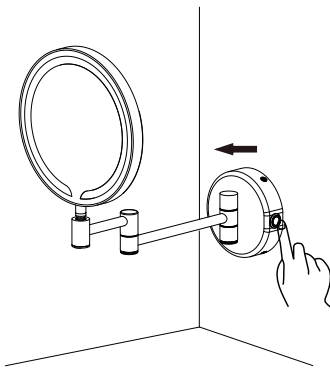

Fig.6
- 2.3 Finally, turn on and test the product(Fig.6).